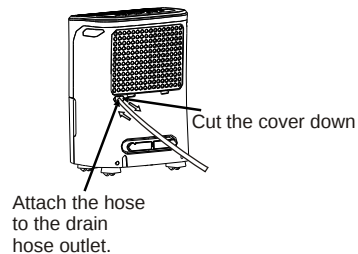

Fig. 7
- Cut the cover down from the back drain hose outlet. Attach a drain hose (ID=13.5mm) and lead it to the floor drain or a suitable drainage facility (see Fig. 7).